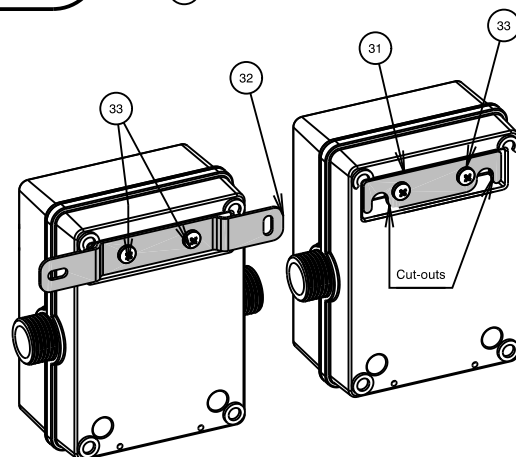

Fig.3
- i) Remove the screws (33) using a phillips head screw driver.
- ii) Remove the wider fixing plate (32) and put it aside.
- iii) Take the narrower fixing plate (31) out, of the bag, fit it at the back of the control box (21) by aligning the holes on the fixing plate (31) with the holes at the back of the control box (21). The cut-outs on the plate should be towards the bottom, as shown in Fig. 3.
- iii) Fit the screws (33) and tighten, DO NOT OVERTIGHTEN.